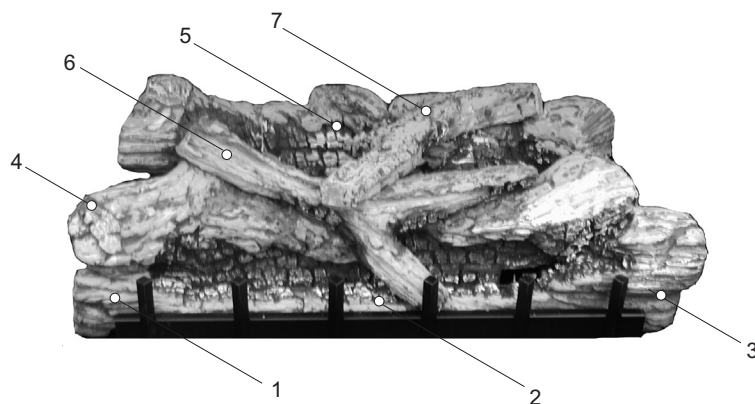
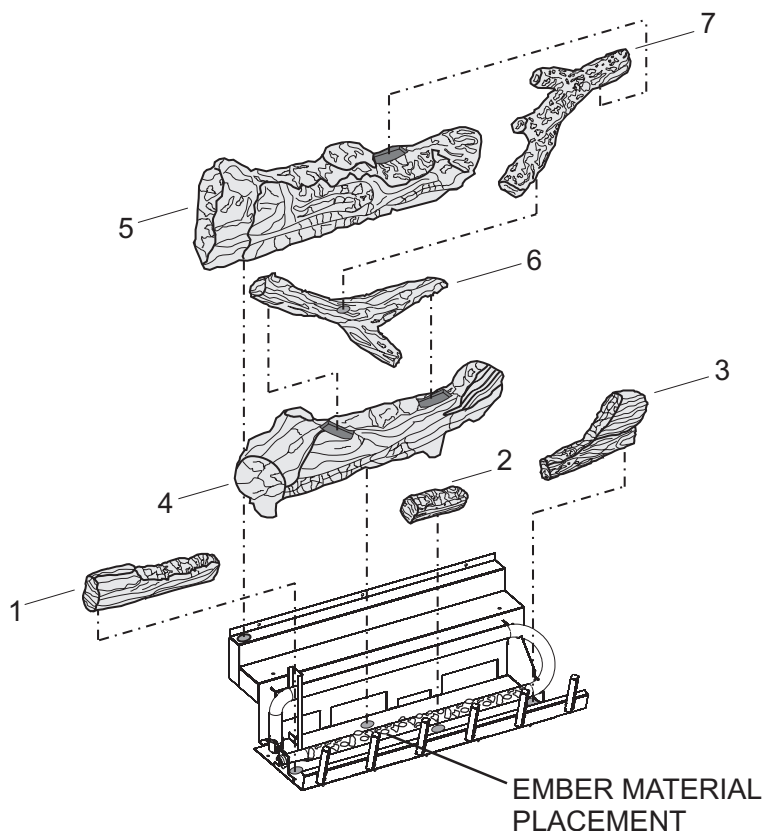

Figure 53
Figure 54
The positioning of logs is critical to safe and clean operation of this fireplace. Sooting and other problems may result if the logs are not properly and firmly positioned in the fireplace. Please refer to **Figure 53** and **Figure 54** and corresponding WARNING when completing following log placement steps.
11. After all logs are properly positioned, place small "dime" size pieces of Rockwool lightly across the front burner tube ports. Place the ember material (Rockwool pieces) side by side. Do not stack more than one layer of embers across the burner ports. See Figure 54.
Attention: Do not use Figure 53 or Figure 54 to order logs. Refer to parts list on page 45 and parts view on page 46 to order logs and/or ember material for your appropriate fireplace model.